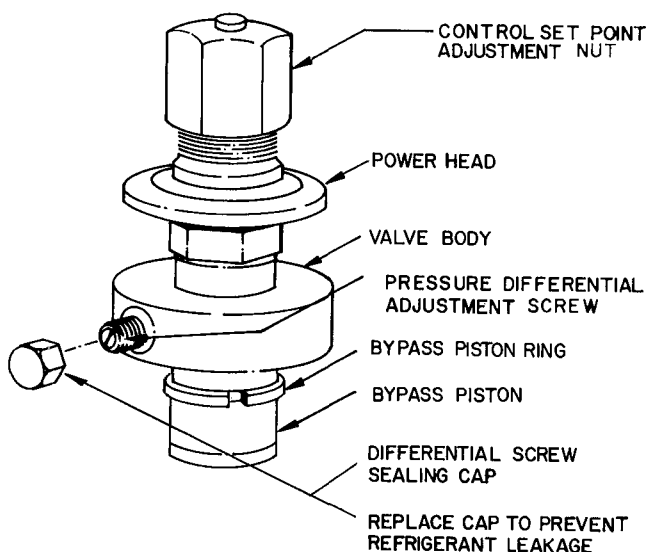

Fig. 29 — Capacity Control Valve
→ Capacity Control Valve Adjustment (Fig. 29)
1. Turn adjustment nut (Fig. 29) clockwise to its bottom stop. Set point is now 85 psig.
TO ADJUST PRESSURE DIFFERENTIAL — Turn differential adjustment screw (Fig. 29) counterclockwise to its back-stop position. Differential is now 6 psig.